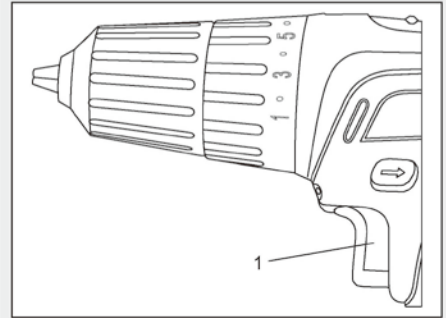

Fig. 8
1. To start drill, gently squeeze the trigger switch (1) (Fig. 8).